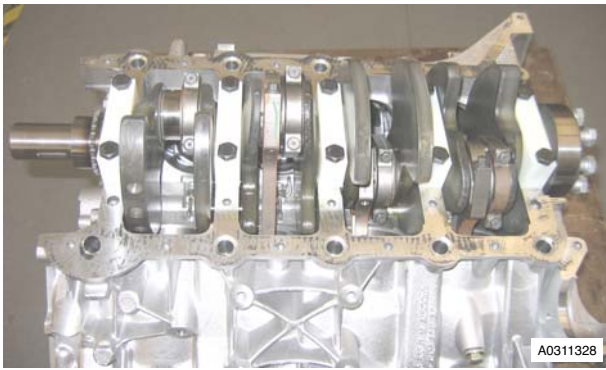

Figure 8
10. Install crankshaft retaining caps (303-534), install and lightly tighten bolts (x10) (see Figure 8).